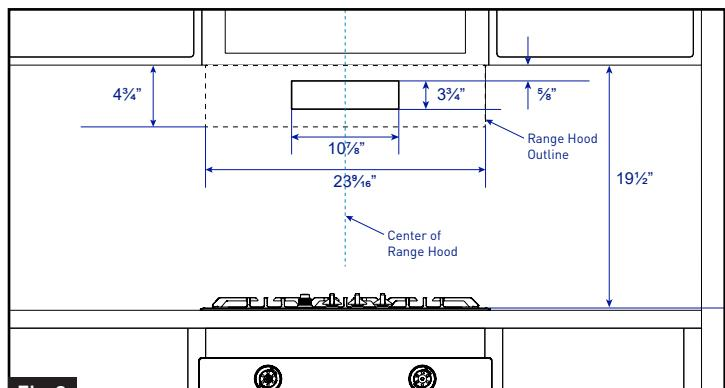

Fig. 3
3. Mark centerline of range hood on the cooktop. (Fig. 3)